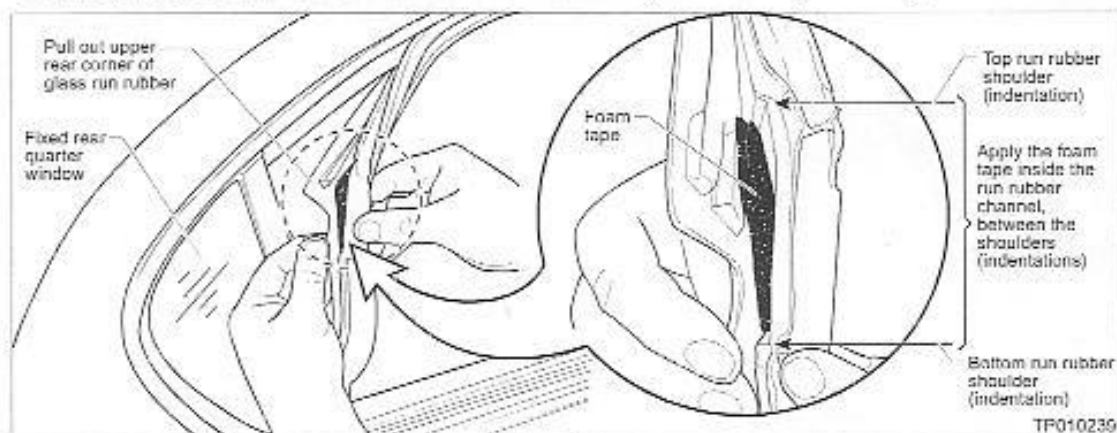

Figure 2
2. Pull out the upper rear corner of the glass run rubber. See Figure 2.
4. Peel off the tape backing and apply the foam tape inside the run rubber channel, between the top and bottom run rubber shoulders (indentations). See Figure 2.